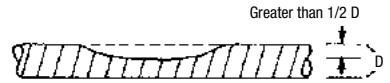

Figure 5.2 Repair Necessary
- The tubing has been significantly crushed or dented (a dent greater than $\frac{1}{8}$ the diameter of the pipe). (Figure 5.2)